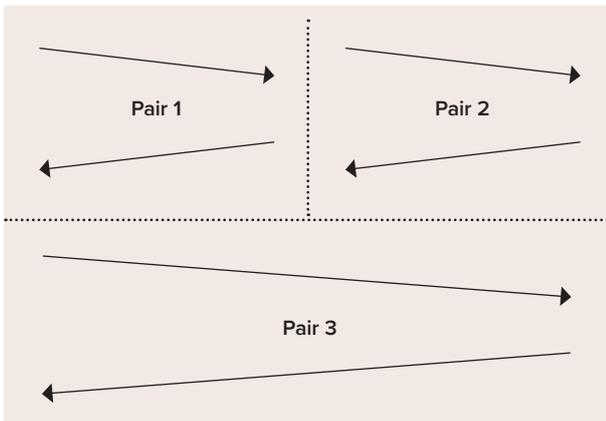

Figure A13 – Sampling procedure for deep litter sheds with three pens
- For multiple pens/rows use fresh swab (Figure A13) and plastic boot cover (Figure A14) for each row/pen.